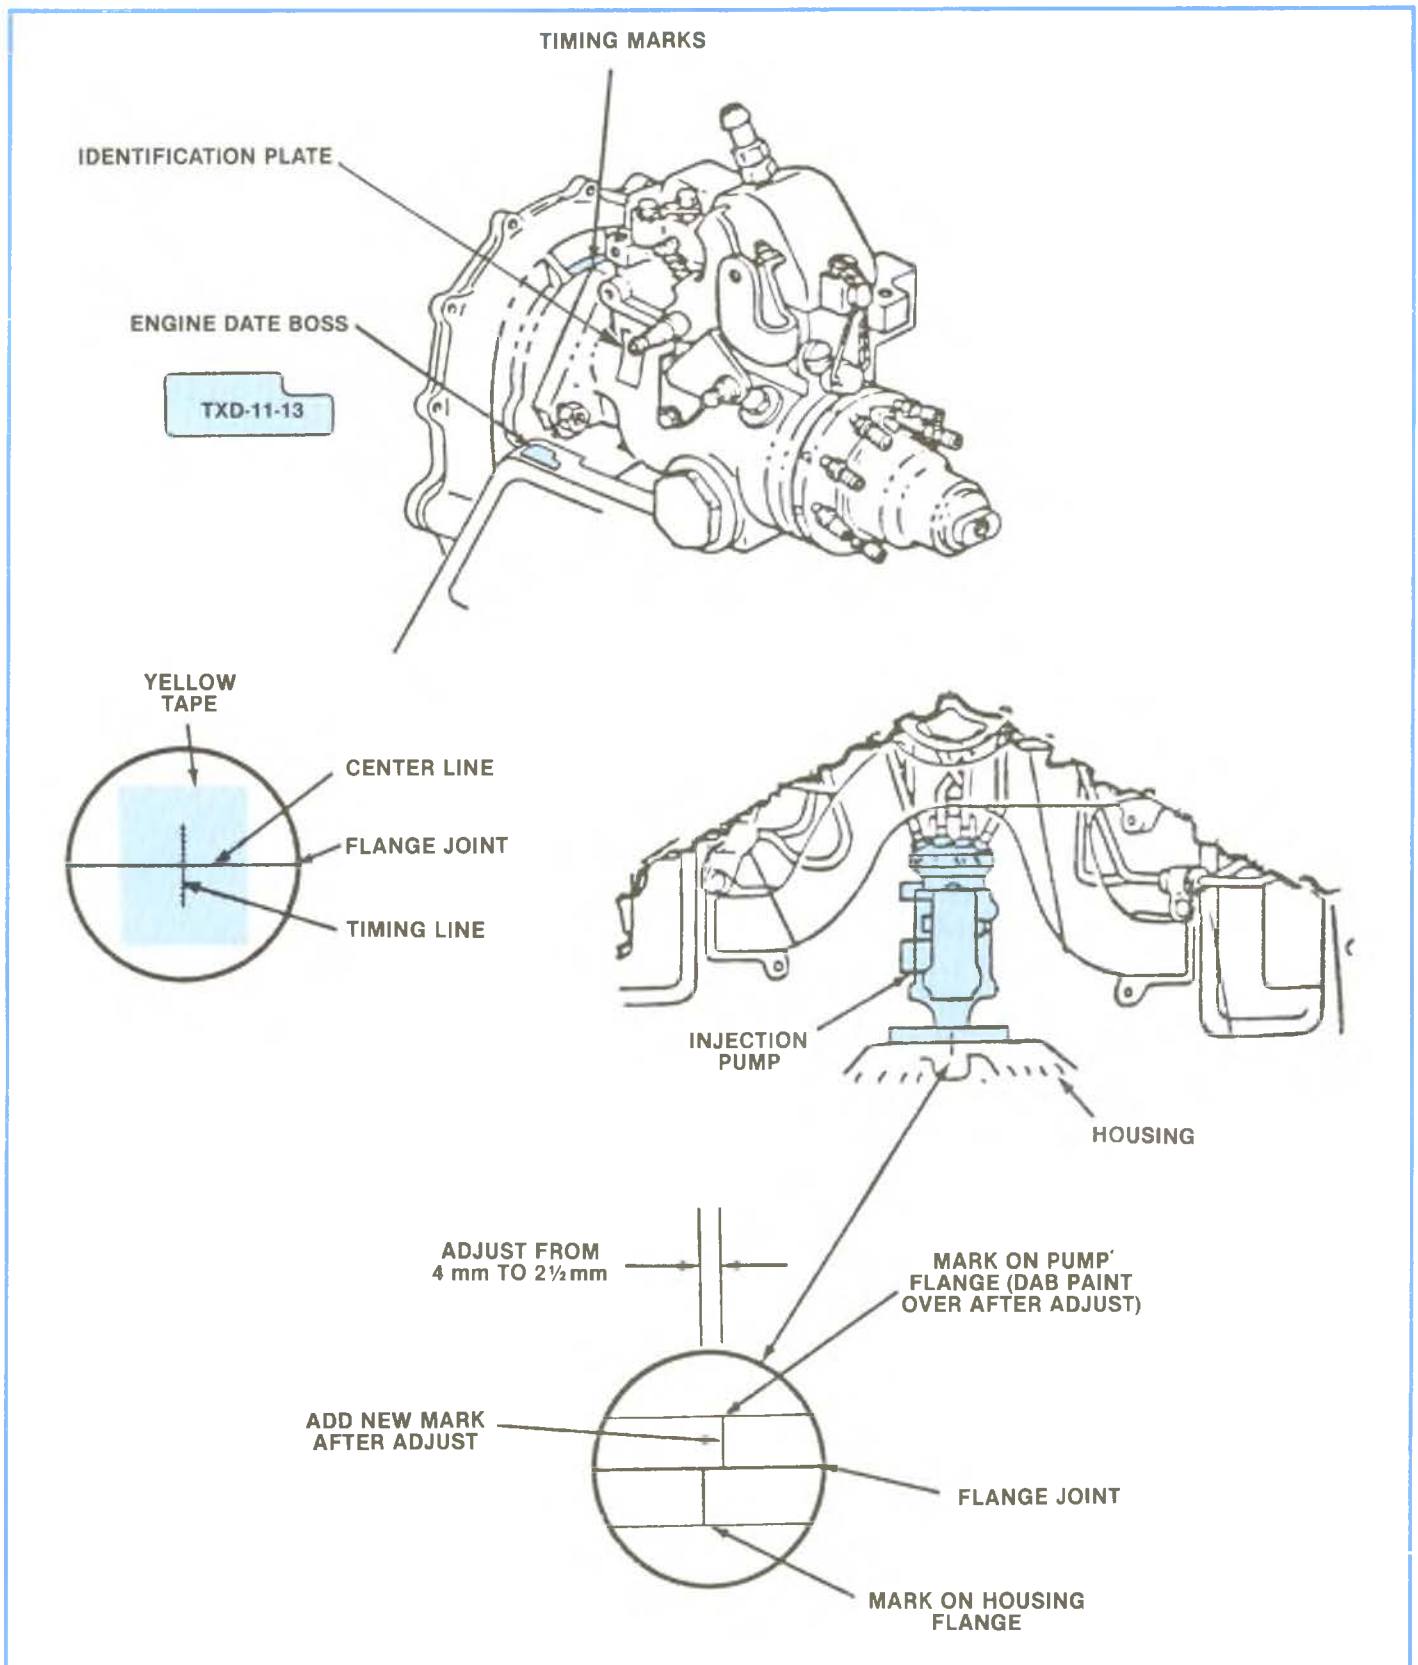

Figure 4-166, Timing Adjustment, Heavy Duty 6.2L Diesel Engine.
See Figure 4-166. Any service on the 6.2L Diesel engine which requires replacement of the injection pump requires the static timing mark to be at the correct setting.
1. All injection pumps have a model identification plate which is attached to the pump housing just below the throttle linkage. The plate includes the (1) model number, (2) serial number and (3) the part number — (Figure 4-166).